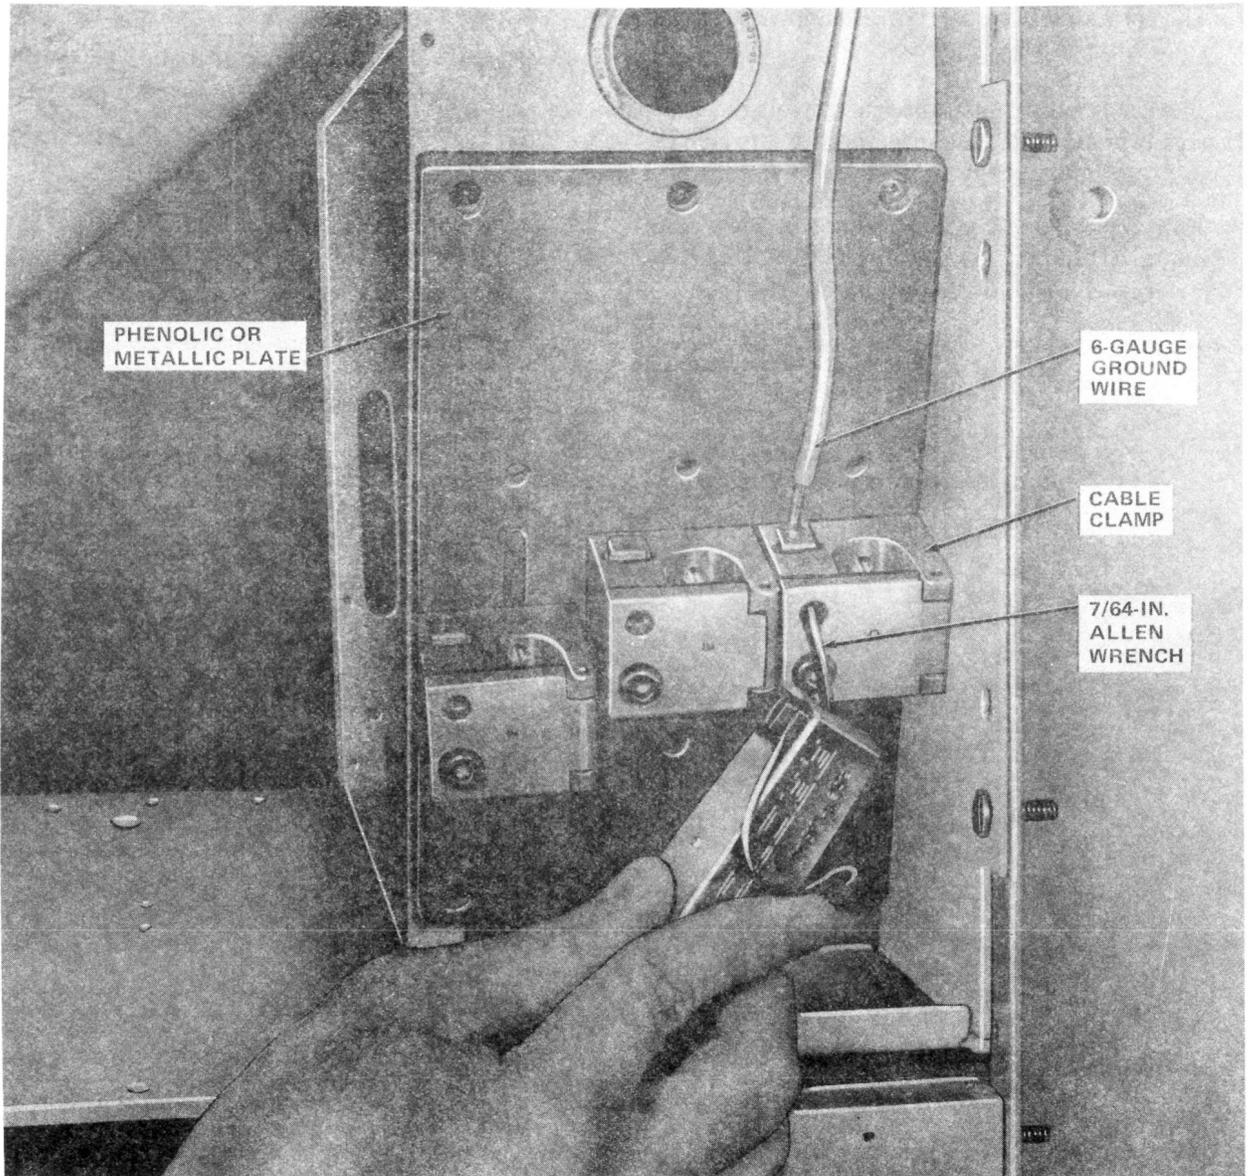

Fig. 13—Installation of Ground Wires
5.03 For the LCIT, install a 6-gauge wire in the hole located on top of cable clamp as shown in Fig. 13. The other end of the ground wire must be connected to the remote terminal ground ring.